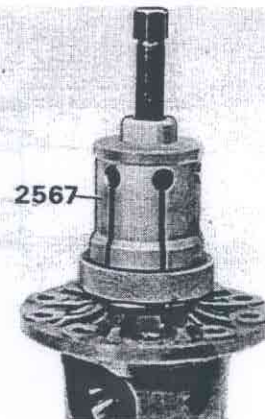

Fig. 46-49. Removing the bearing
4. Remove the differential bearings with 2567, Fig. 46-49.